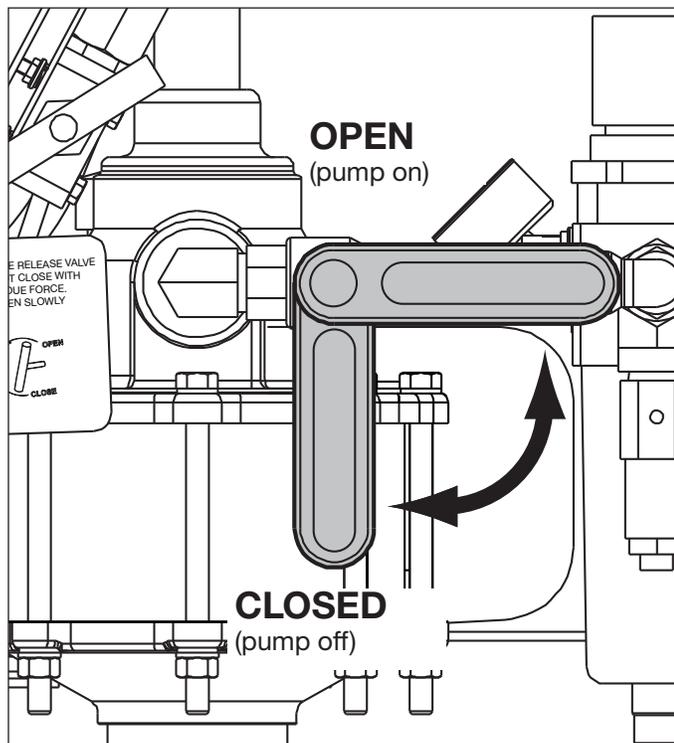

Figure 5, Air-Shutoff Valve
**IMPORTANT:** New pumps MUST be primed BEFORE initial start-up. Perform priming procedure as described in the following steps. Refer to figures 5 through 8.
Operate the pump as described in sections 5.1 through 5.4. Refer to Figures 5 through 8.